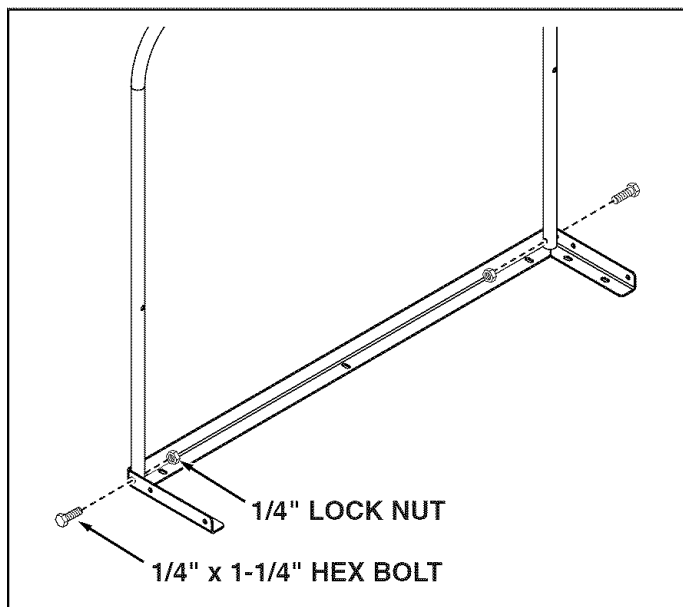

FIGURE 17
- Secure front support tube to top angle support using two 1/4" x 1-1/4" hex bolts and 1/4" lock nuts. **DO NOT TIGHTEN YET**. See figure 17.